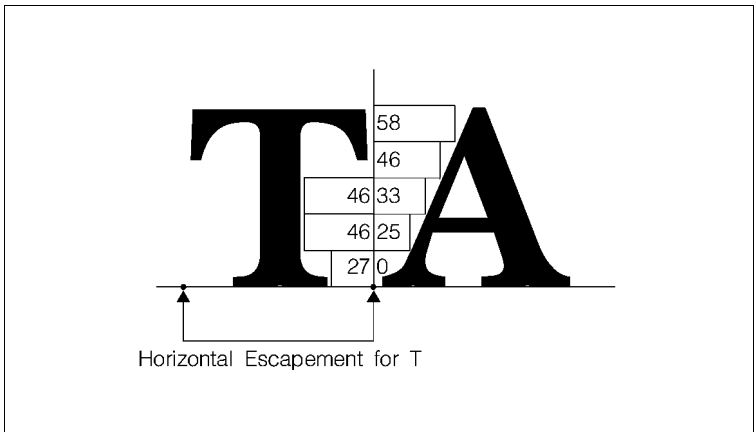

Figure G-3. The Letters T and A with No Kerning
If A is set relative to T using only the horizontal escape-ment value of the T (135), then the result would be that shown in Figure G-3 with no kerning.